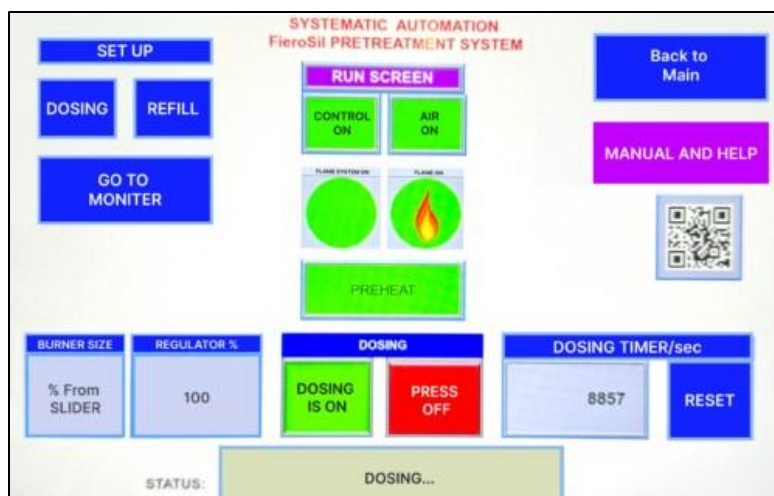

Figure 7: Run Screen - DOSING IS ON
6.3. Select PRESS ON, at which point the box will blink green and read DOSING IS ON and the dosing timer will begin to count (see **Figure 7: Run Screen - DOSING IS ON**)